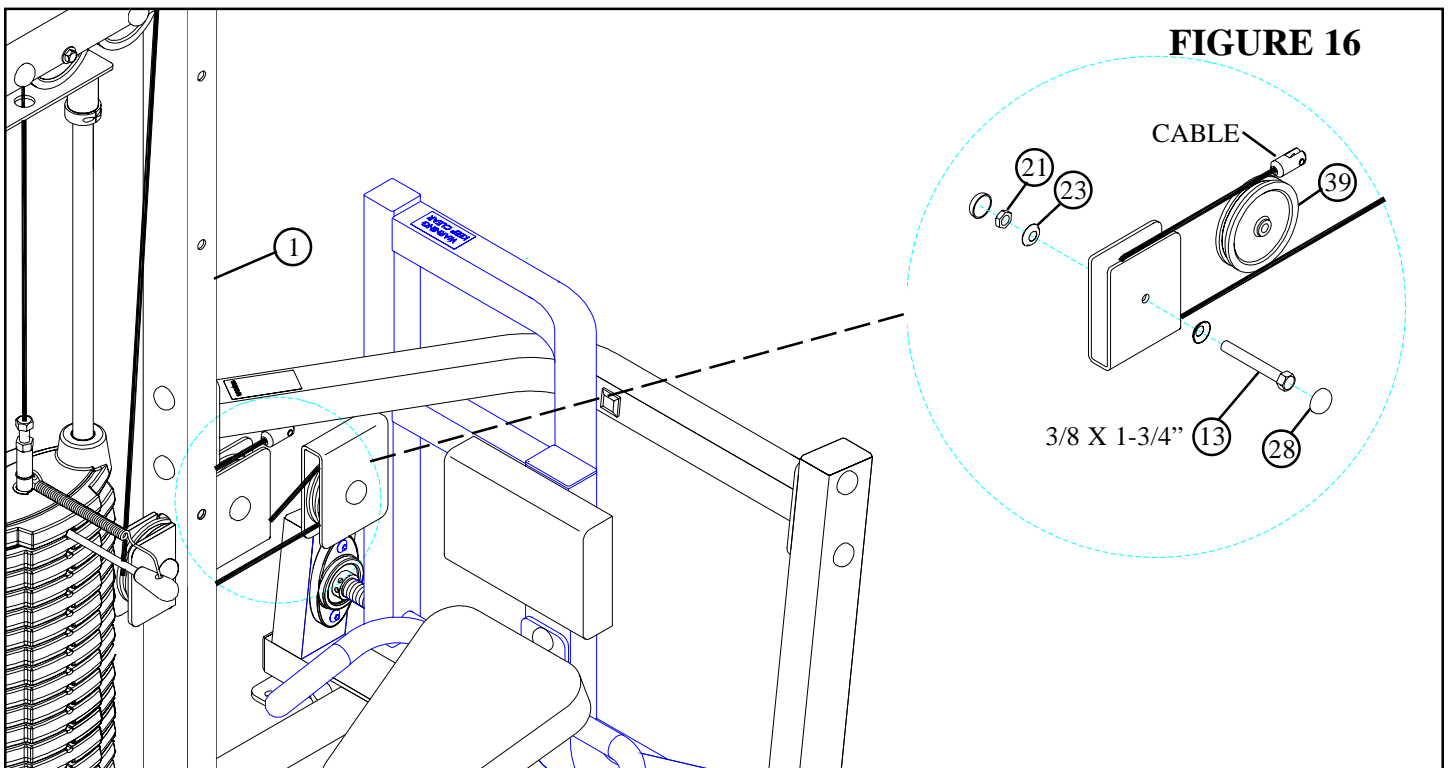

**FIGURE 15**
- **SECURELY** assemble the 4-1/2" PULLEY (39) to the vertical pulley bracket on the BACK PIVOT (5) using two RH CAPS (28), one 3/8 X 1-3/4" BOLTS (13), two 3/8" RH WASHERS (23), and one 3/8" LOW HEIGHT LOCK NUT (21).as shown in FIGURE 15.